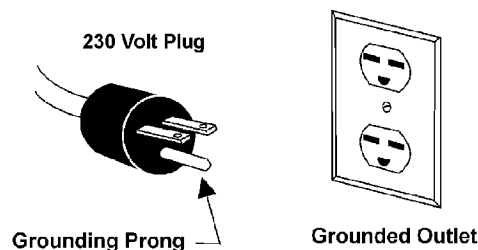

Figure 2
3. The 115V attachment plug supplied with the band saw must be replaced with a UL/CSA listed plug suitable for 230V operation, similar to that shown in Figure 2. Contact your local Authorized JET Service Center or qualified electrician for proper procedures to install the plug. The band saw must comply with all local and national codes after the 230V plug is installed.
4. The band saw with a 230V plug should only be connected to an outlet having the same configuration (Figure 2). No adapter is